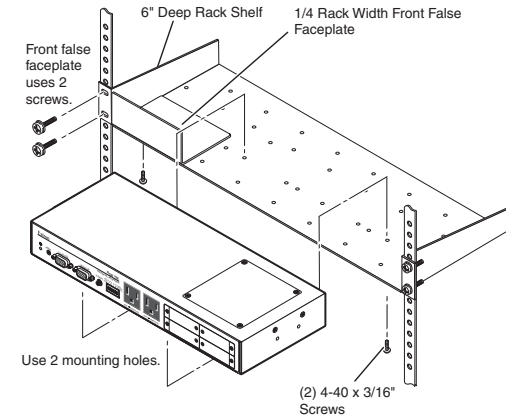

Figure 2-3 — Rack mounting
- Mount the interface on either side of an 19" 1U Universal Rack Shelf (part # 60-190-01) using two 4-40 x 3/16" screws to secure it to the shelf. See figure 2-3.